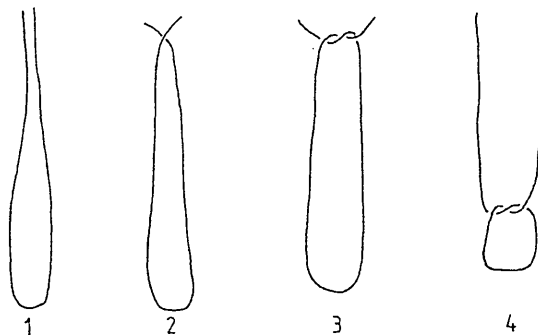

FIGURE 17
First we exercise in making a half-knot (figure 17). Take both ends of the rubber (1), cross the ends (2), pass one end underneath the other (3) and pull lightly (4).